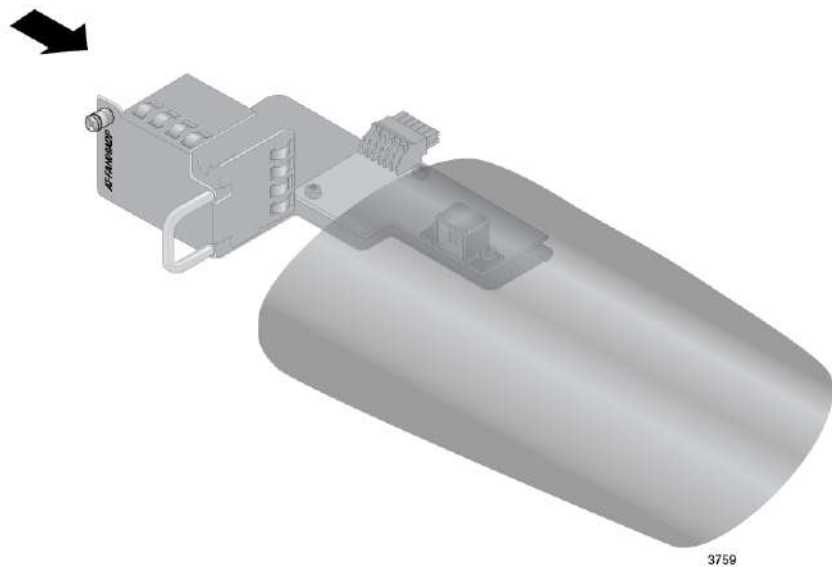

Figure 38. Storing the AT-FAN09ADP Module in an Anti-static Bag
13. Store the AT-FAN09ADP Module in an anti-static bag and place it in a safe location. Refer to Figure 38.